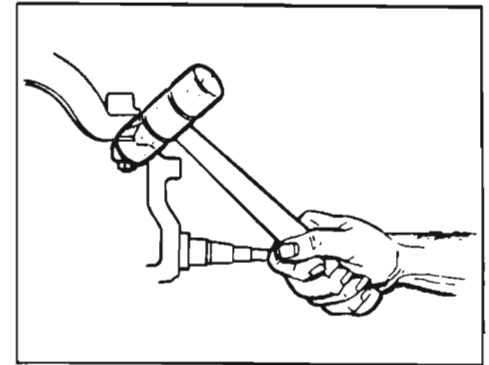

Figure 7-12—Separating Steering Knuckle from Ball Joint
5. Rap steering knuckle sharply in area of ball stud to allow force of chassis spring to disengage tapered stud from knuckle. See Figure 7-12.